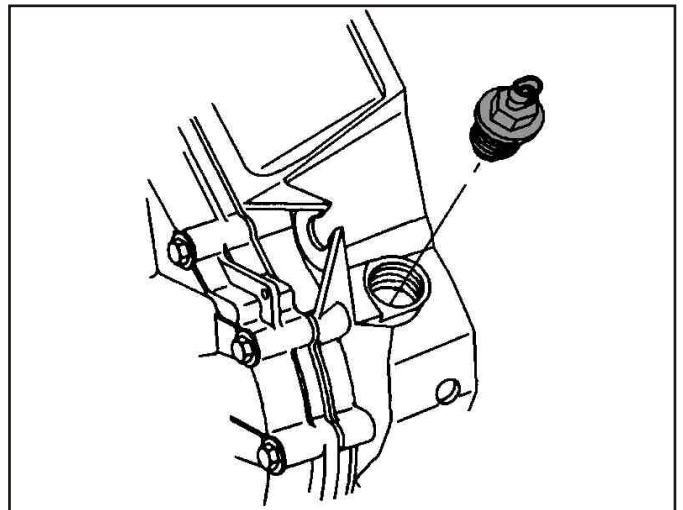

Figure 226
- 67. Install the output shaft speed sensor (See Figure 226) and torque to 26 N•m (19 ft. lbs).